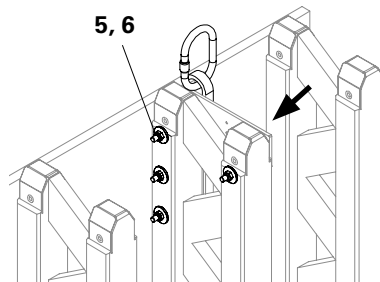

Fig. 6
3. Mount the four Washers on the Bolts (4) of the Crane Eye 24.
4. Tighten the four Hex. Bolts by turning in a clockwise direction and secure with a torque wrench, 50 Nm. (Fig. 6)